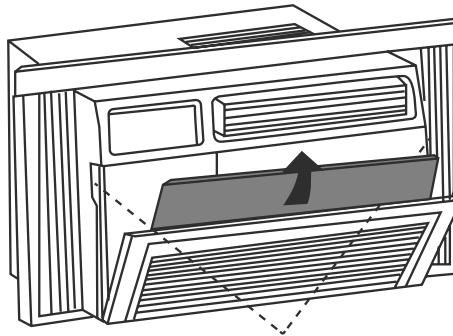

Fig.14
- Take off the power plug, then remove the filter by sliding it out from the front right side of the air conditioner. (See Fig .14)